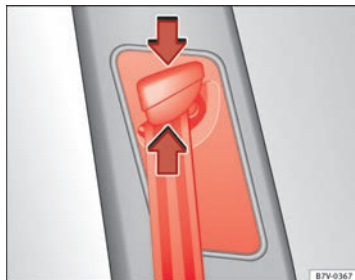

Fig. 15 Next to the front seats: belt height adjuster
- Keep the guide device pressed down in the direction of the arrow ⇒ Fig. 15.